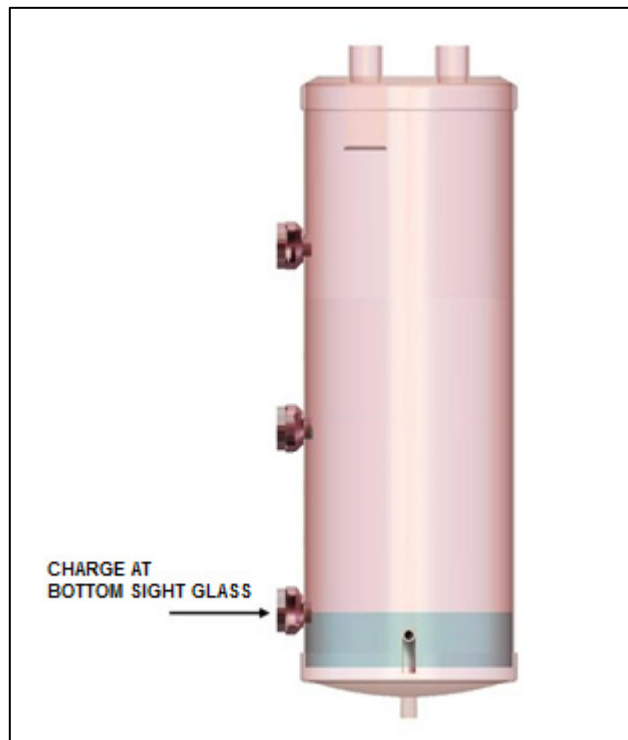

Figure 29. Charge at Bottom Sight Glass
5. Adding liquid refrigerant will raise the liquid level in the ACC. Continue to add liquid refrigerant to the system until the liquid level has reached the bottom sight glass, as shown in Figure 29.
6. **When the liquid level is at the bottom sight glass, as shown in Figure 29, turn the refrigerant container valve OFF.**